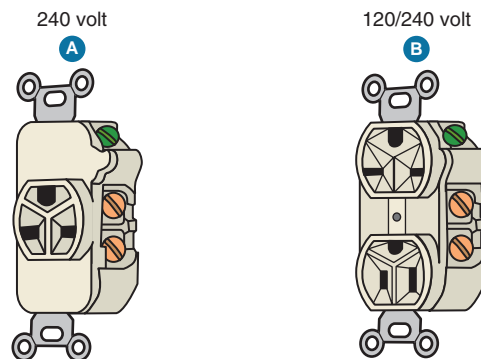

FIGURE 23-14 Types of receptacles.
Figure 23-14(A) is a straight 240-volt receptacle. Figure 23-14(B) is a combination receptacle. The lower portion is for 120-volt use, and the upper portion is for 240-volt use. Note the different slot configurations that meet the noninterchangeable requirements of 406.3(F).